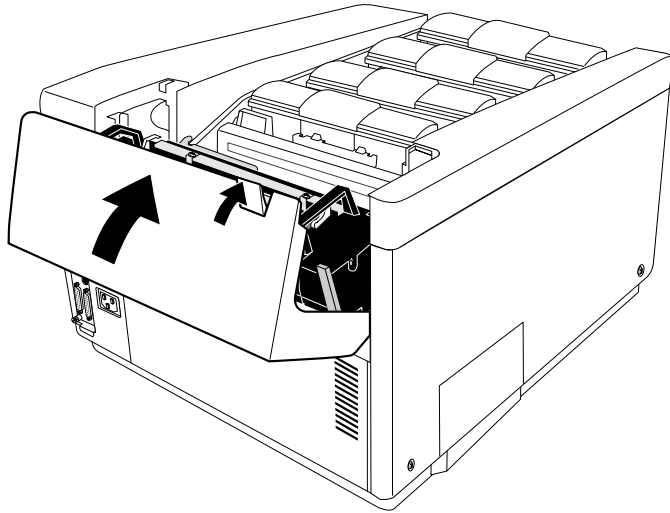

Fig. 2.20 *Close the Paper Exit Unit (rear view)*
9. Close the paper exit unit (fig. 2.20).